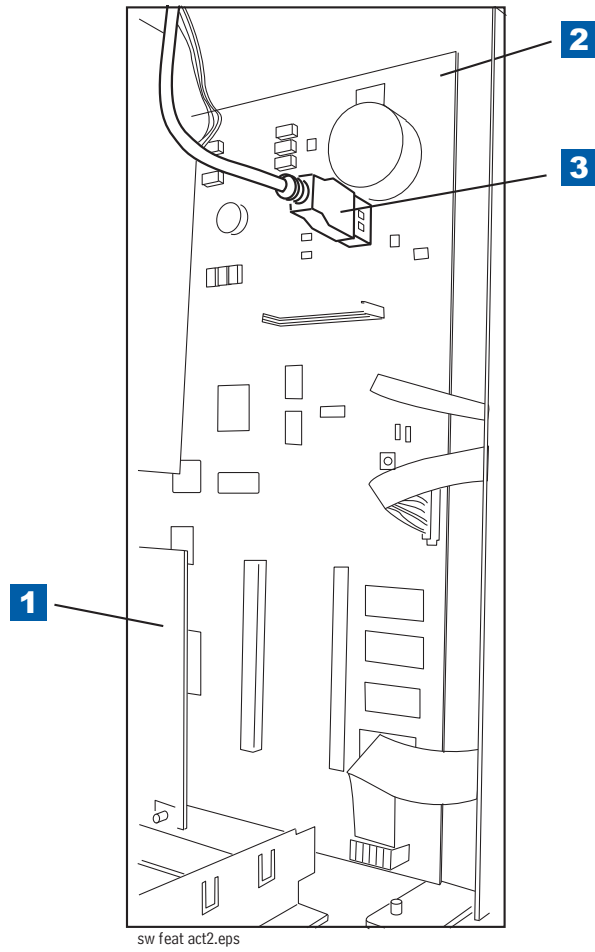

Figure 1. Locating Printer's USB connector
- Figure 1. Locating Printer's USB connector 4
3. Disconnect the Printer's USB cable from its connector on the CPU board and insert your V-R Backup thumb drive (P/N 330020-607) into the CPU USB connector as shown in Figure 1 below.